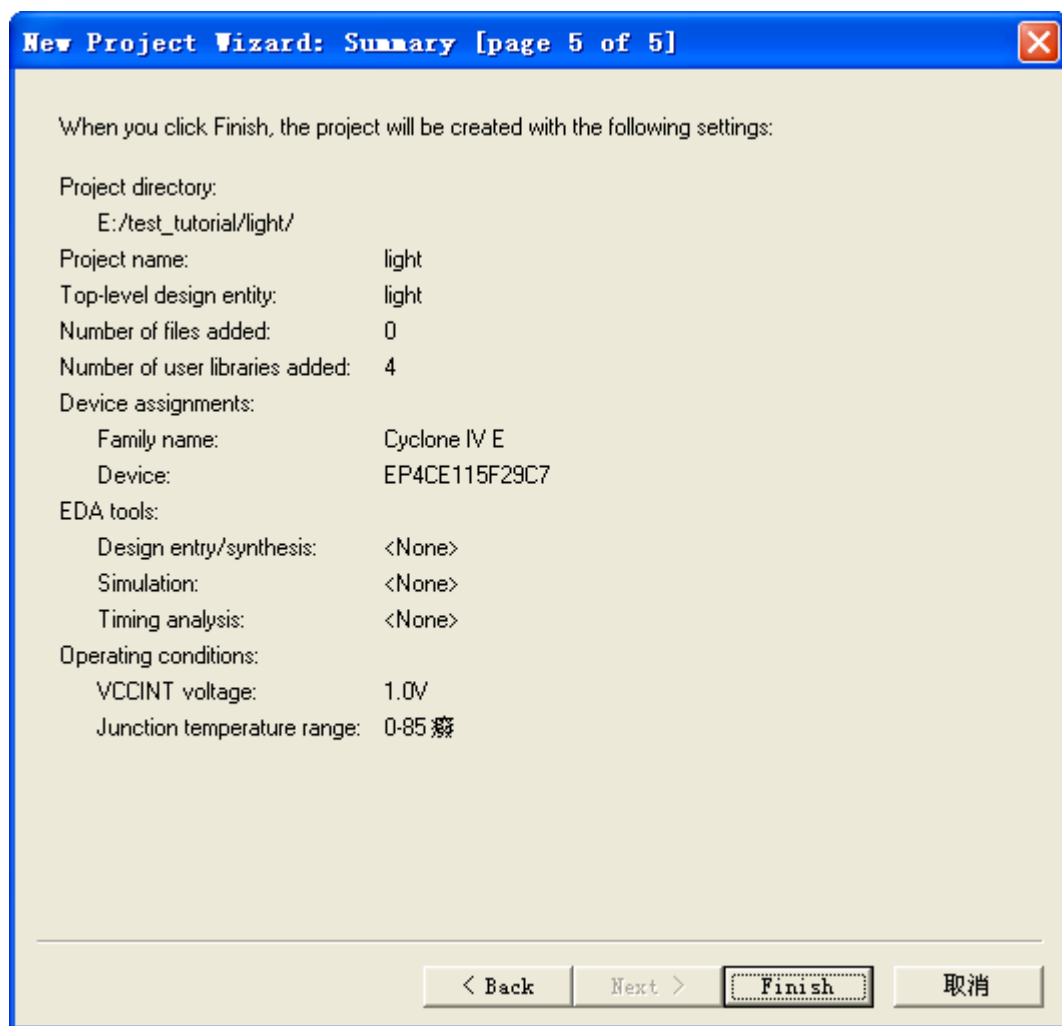
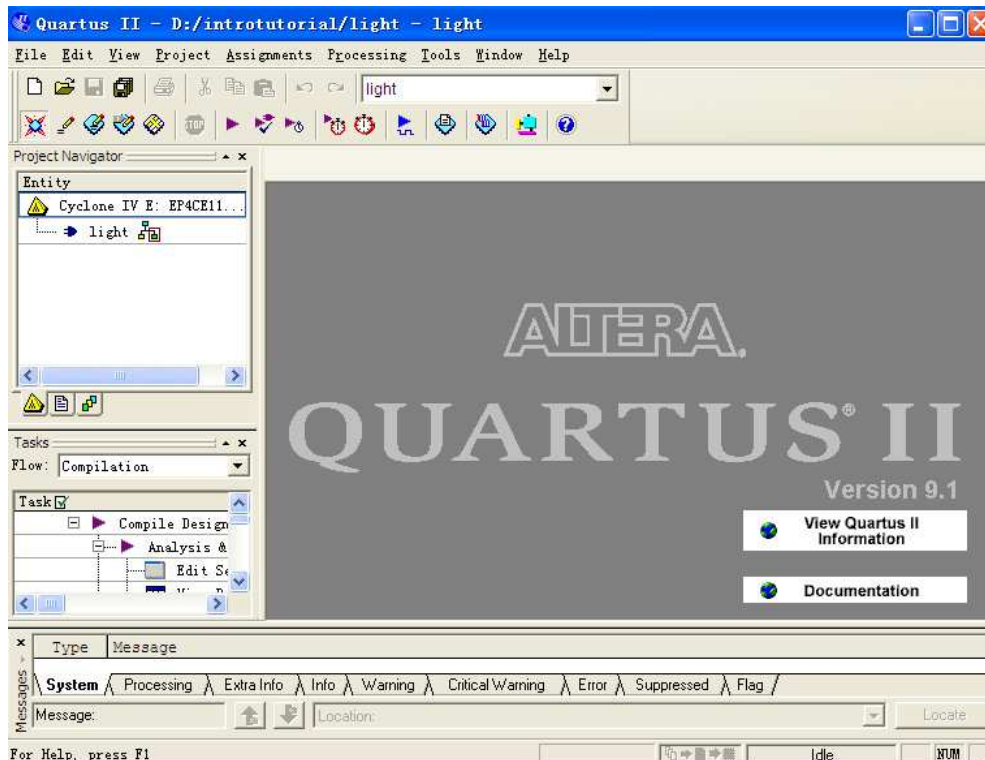

Figure 10. Summary of the project settings.
Figure 11. The Quartus II display for the created project.
6. A summary of the chosen settings appears in the screen shown in Figure 10. Press Finish, which returns to the main Quartus II window, but with light specified as the new project, in the display title bar, as indicated in Figure 11.